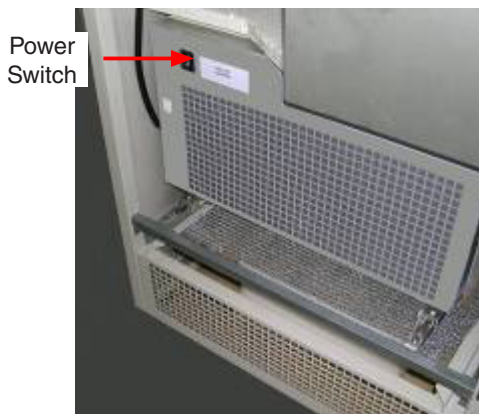

Figure 7.3d: Chiller power switch location.
- The chiller power switch on the front of the cooling unit inside the chiller cabinet (Figure 7.3d) must remain in the ON position.